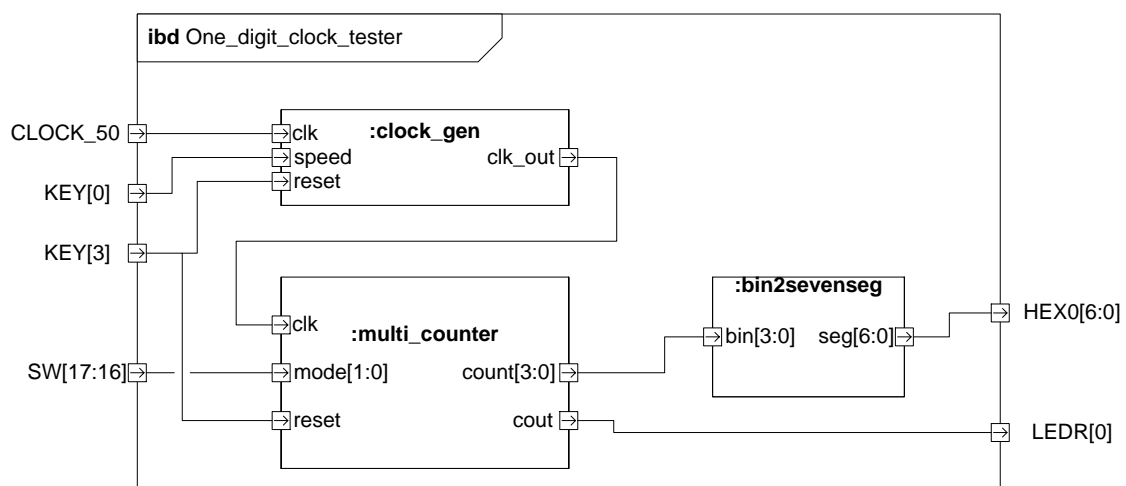

FIGURE 2 ONE-DIGIT CLOCK
- 1) Design a new *clock_gen* component that generates a pulse every second when “speed” is ‘1’ and every 5 millisecond when “speed” is ‘0’. The pulse must be one 50MHz clock pulse wide. Connect the “clk_out” output of *clock_gen* to the “clk” input of the *multi_counter* component as shown in Figure 2. CLOCK_50 is a 50MHz, 50% duty-cycle signal generated by a clock oscillator on the DE2-board. The reset signal must be an active low asynchronous reset.